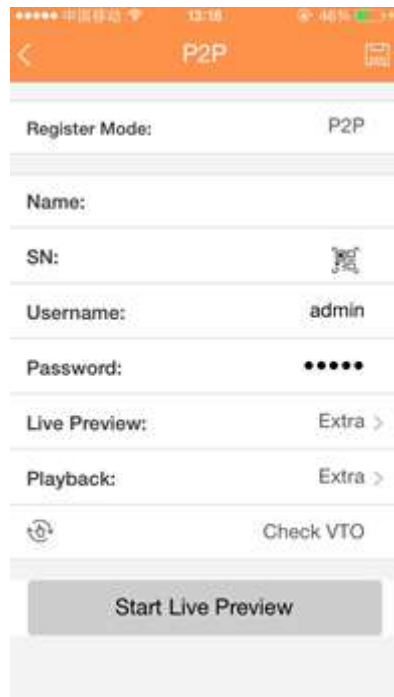

Figure 4-134
3. Tap Device manager button, you can use several modes (P2P/DDNS/IP and etc.) to add the device. Click  to save current setup. Tap Start Live preview to view all-channel video from the connected device. See Figure 4-134.